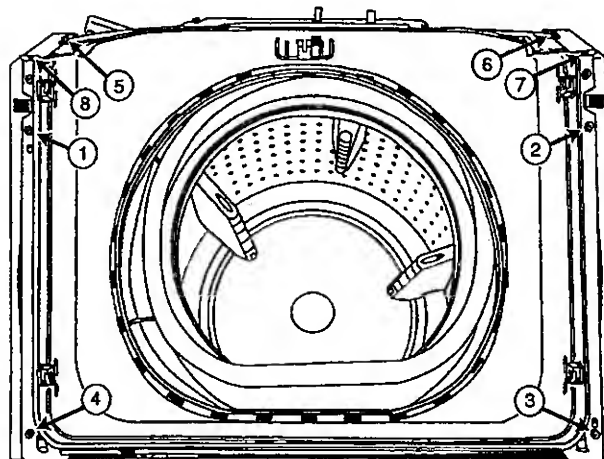

Figure 5-11
6. Remove eight hex-head screws around the front shroud assembly (**Figure 5-11**).
7. Removal and replacement of the screws in the following order, as illustrated, will aid in the removal and reinstallation of the assembly to the cabinet. Failure to do so will hinder removal and replacement of the shroud onto the cabinet (*Figure 5-11*).